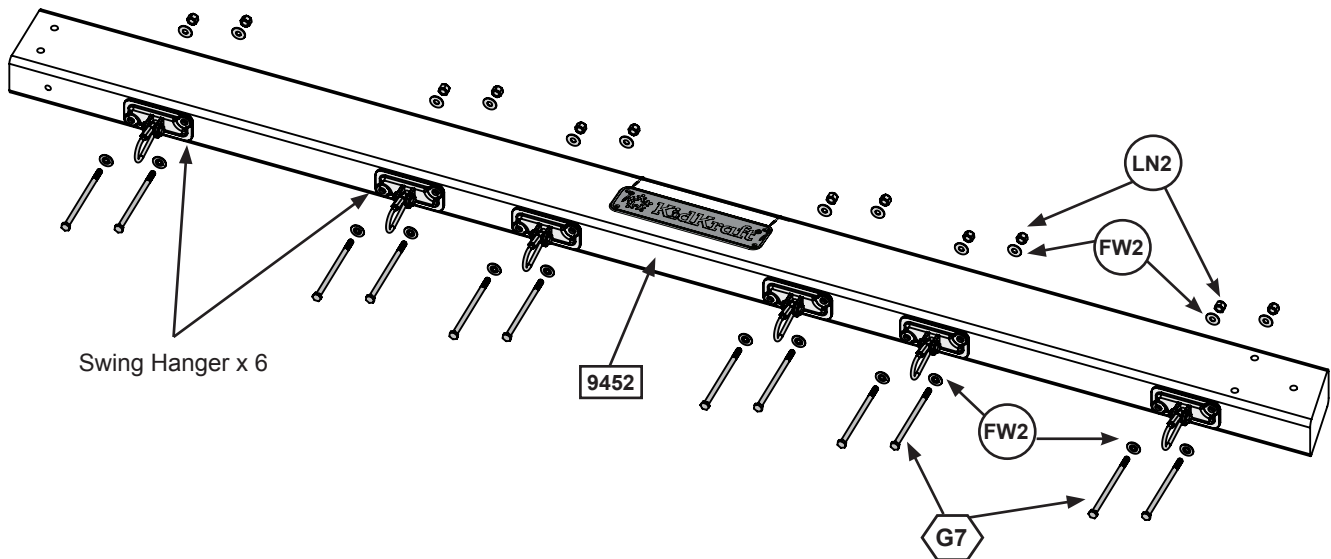

Fig. 29.2
- B:** Install 1 (WB7) 5/16 x 3" Wafer Bolt (with flat washer and t-nut) in the middle bolt hole in (9452) Engineered Beam as shown in (fig. 29.2). **IT IS IMPORTANT THAT THIS BOLT IS ATTACHED. IT WILL MINIMIZE CHECKING OF WOOD.**